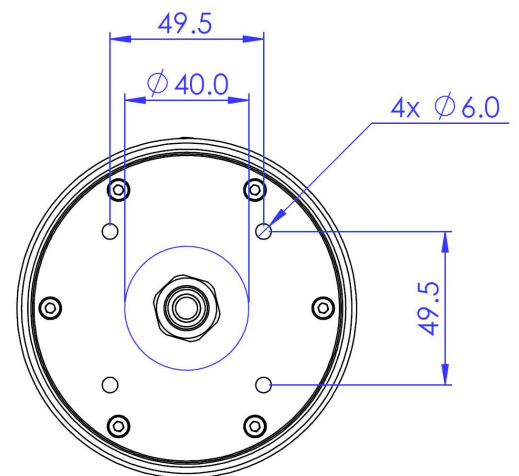

Figure 3: Cutout dimensions for Steerer installation.
1. Holes for mounting the steerer are drilled in the dashboard/pedestal. Hole specifications are stated in the drawing in figure 3.